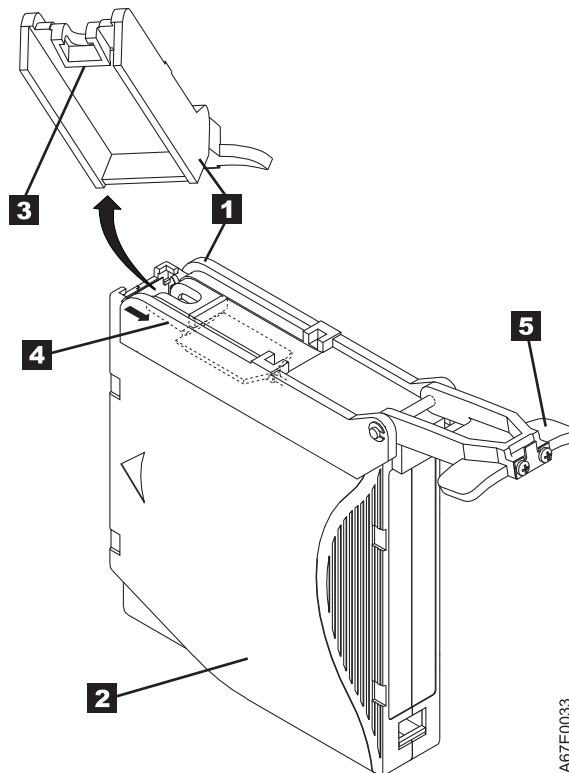

Figure 22. Attaching the leader pin attach tool to the cartridge. To hold the cartridge door open, hook the tool into the door and pull the tool back.
1. Attach the leader pin attach tool (**1** in Figure 22) to the cartridge **2** so that the tool 's hook **3** latches into the cartridge 's door **4** . Pull the tool back to hold the door open, then slide the tool onto the cartridge. Open the tool 's pivot arm **5** .